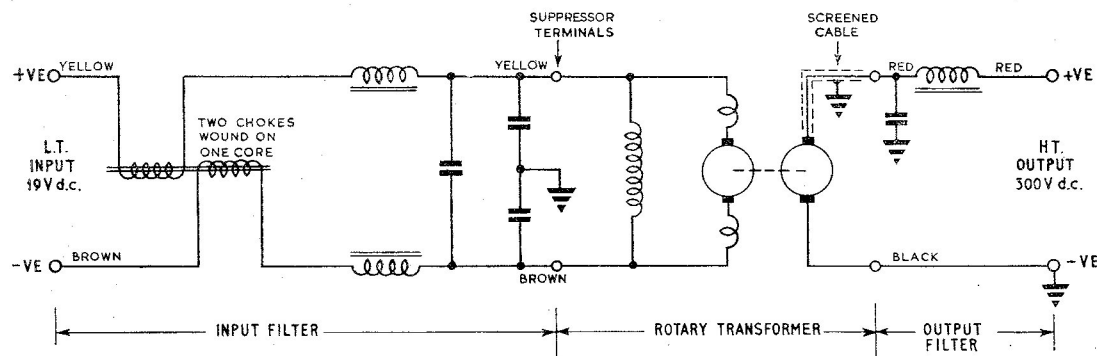

Fig. 1. Circuit diagram of rotary transformer with suppressor unit
4. This is a compound wound, long shunt connected machine, with two turns of series field winding on each pole. The input and output armature windings are wound on the same shaft (*fig. 1*).